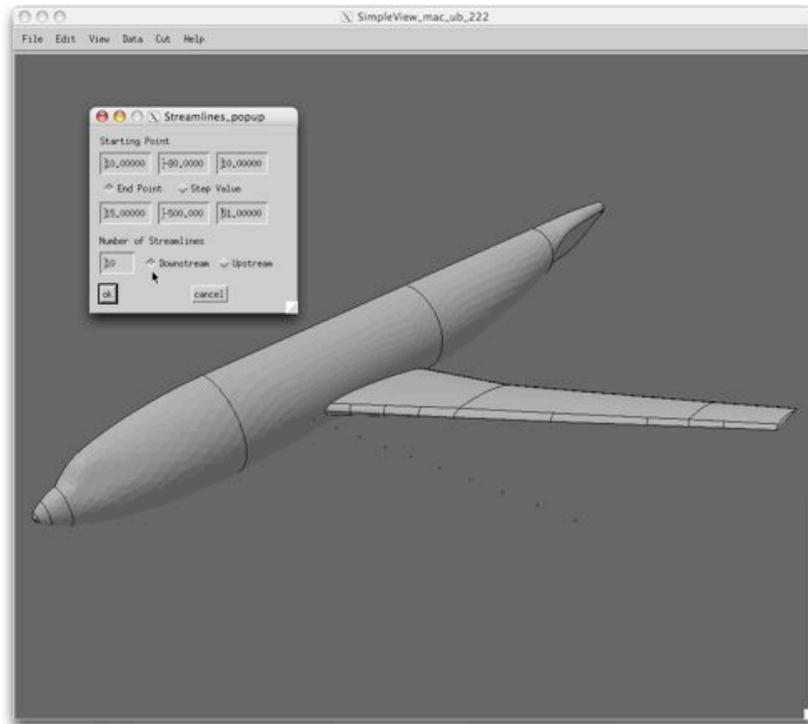
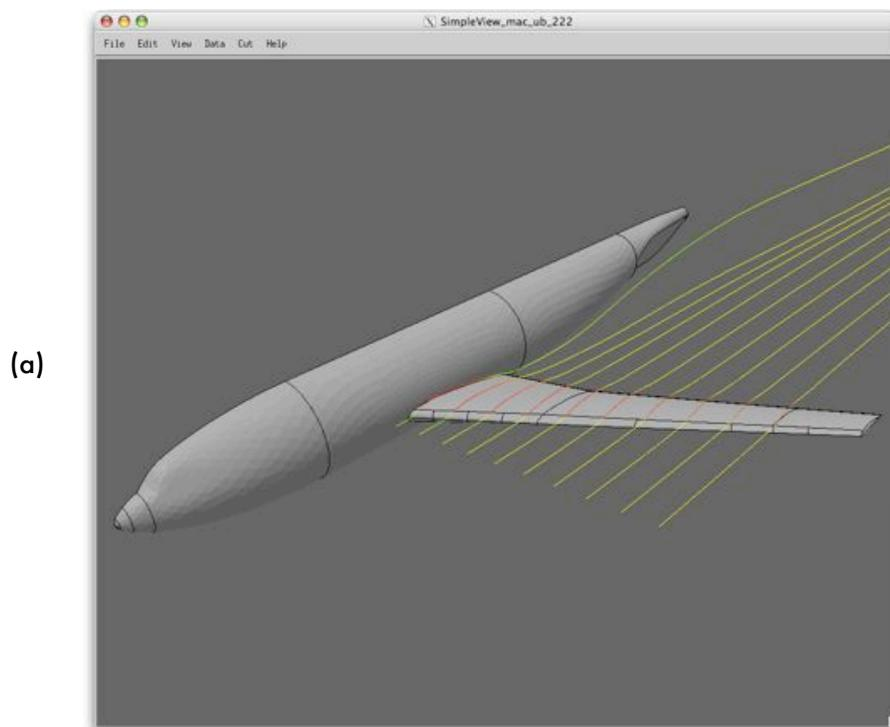

Figure 2.6.9 The Streamlines Dialog
Figure 2.6.10 Streamlines
2. To generate a set of streamlines emanating from a “rake,” select the “Streamlines” option from the Data Menu, which opens the Streamlines dialog, as shown in Figure 2.6.9.
As you enter data into the Streamlines dialog, **SimpleView** will display the points on the rake from which the streamlines will emanate (these are the small blue dots seen just upstream of the wing leading-edge in Figure 2.6.9). Hitting the “ok” button will begin streamline generation. If
the “Streamline Scaling” option is off, streamlines are drawn in the default streamline color (yellow by default), which can be changed from the Color submenu. If the “Streamline Scaling” option is on, streamlines are shaded by velocity. The default scaling range is from low (blue) to high (red). Examples of streamlines generated using the rake shown in Figure 2.6.9 are shown in Figure 2.6.10 (for both “downstream” and “upstream” streamlines).